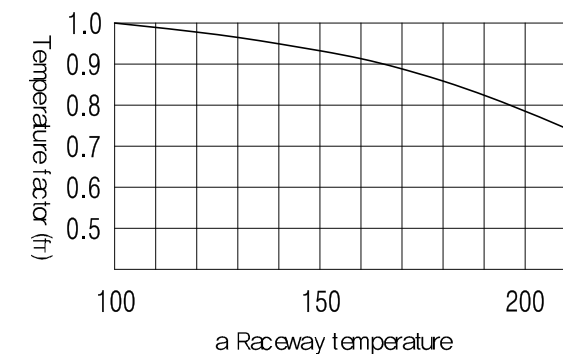

Fig2 Temperature factor (fT)
**fT** : Temperature (see Fig 2)      **fc** : Contact factor (see Table)